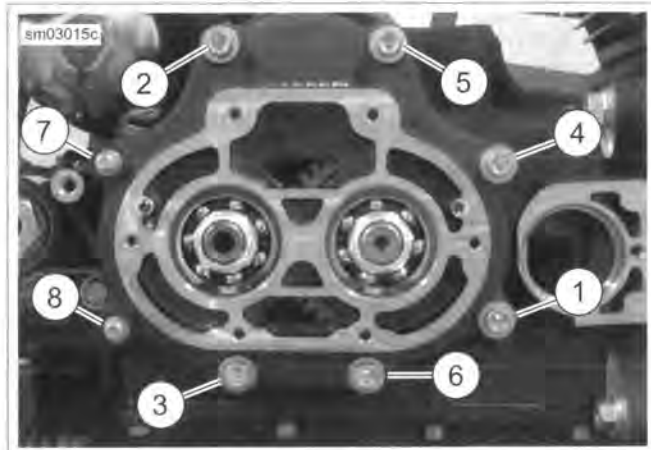

Figure 6-34. Torque Sequence
6. See Figure 6-34. Tighten in the sequence shown to 23-25 ft-lbs (31.2-33.9 Nm).